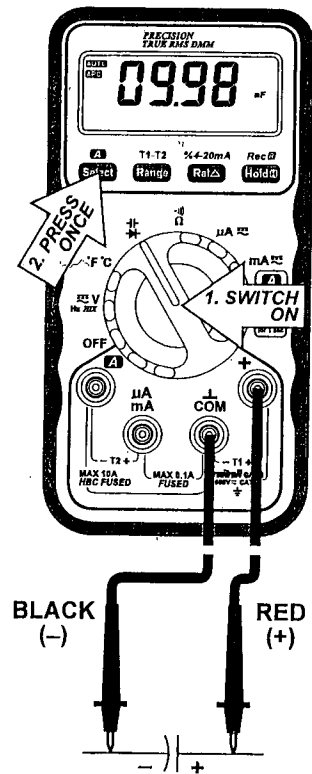

FIG 6. $\text{--}\text{||}\text{--}$ CAPACITANCE FUNCTION
- 4) Connect the test leads as shown in **FIG 6** and observe the digital display